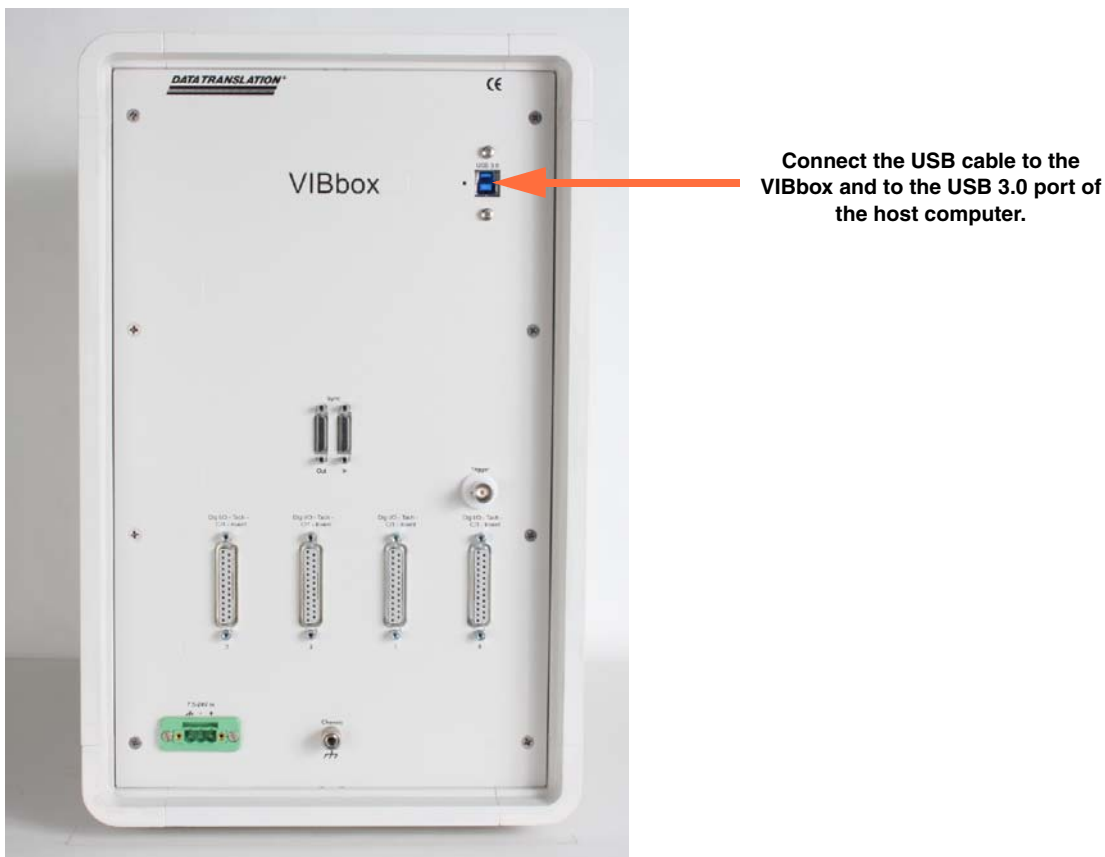

Figure 6: Attaching the USB Cable to the VIBbox
2. Attach one end of the USB cable (provided with the system) to the USB 3.0 port on the VIBbox, as shown in Figure 6. The VIBbox supports an optional locking USB cable if desired. You can purchase this cable separately from vendors such as Newnex Technology Corporation (part number UHRB-B00A-U60).